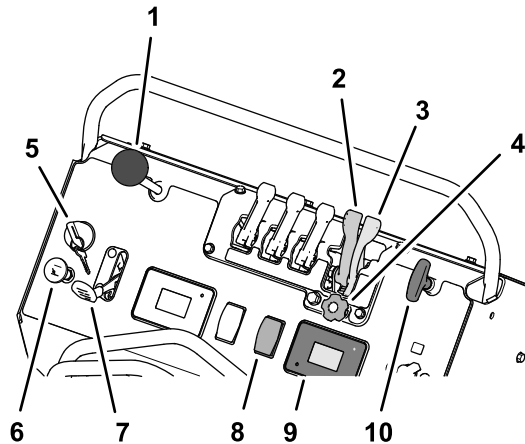

Figure 39
1. Start the engine, and adjust the throttle midway between the SLOW and the FAST positions (Figure 39).
2. Tap the top of the impeller control switch to run the impeller motor (Figure 39).